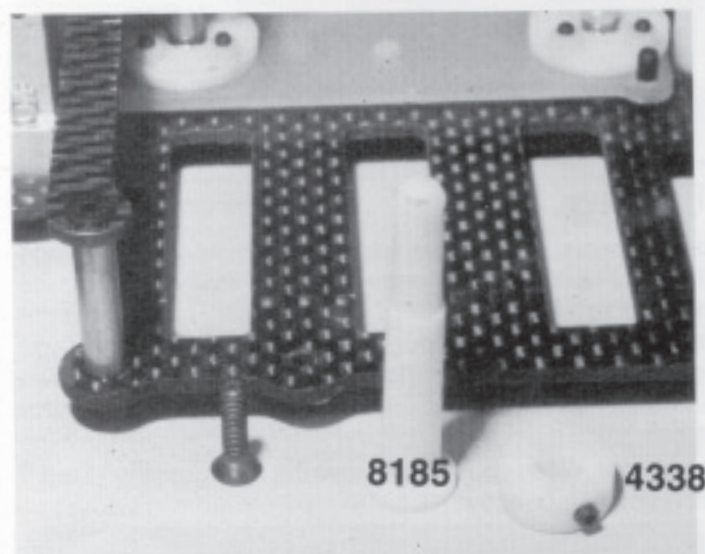

Fig. 75A
□ Figs. 75A, 75B & 75C
In bag #2 you will find two #8185 3" rear nylon body mounts and two #6922 4-40 x 1/2" FHSScrews. In the same bag with these mounts you will also find two #4338 nylon locking collars and two #6951 4-40 x 1/8" set screws. Mount the body mounts to the chassis as shown in Fig. 75A. Now thread one #6951 set screw into each locking collar and then slip the collars onto the rear body mounts.